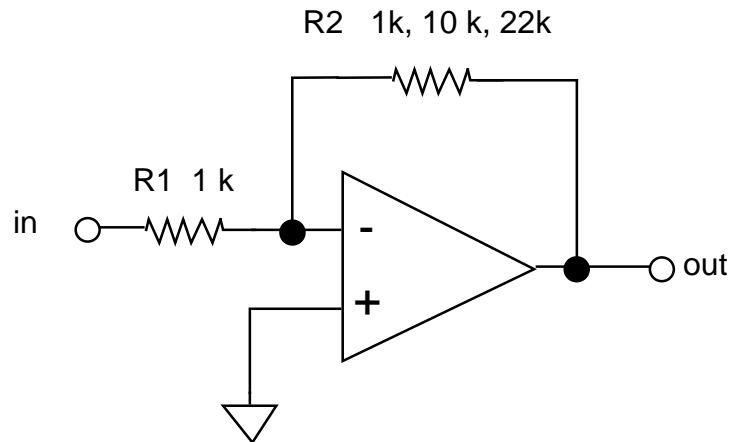

Figure 7-3 Inverting amplifier
* Measure the values of your resistors, then using the prototyping board, wire up the inverting amplifier shown in Figure 7-3.